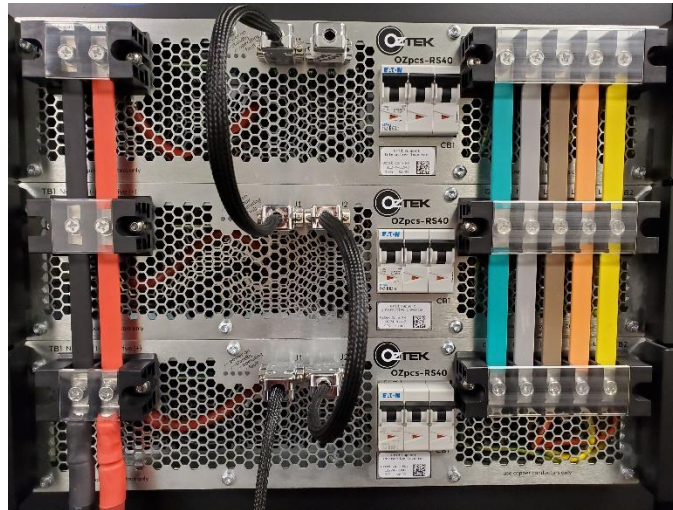

Figure 2 - DC and AC Power Cabling
- Figure 2 - DC and AC Power Cabling 3
The DC and AC connections are made using pass-through type terminal blocks. This interface style allows for simple daisy chain connections between units using cable or bus bars as shown below in Figure 2.
All isolated, low voltage I/O signals are provided on two standard High Density, D-Sub, 15-pin, female connectors. The pinout is identical for the two connectors provided in the table below. Providing two connectors simplifies cabling by allowing one point to point cable between the system controller and PCS #1, and short daisy chain cables to connect #1 to #2, and #2 to #3. This is illustrated in Figure 2. The host cable is routed from the bottom to the left connector on the lower PCS. Daisy chain cables are used to connect the bottom to the middle PCS, and the middle to the top. The connector on the top right PCS implements the terminating jumpers, as described in section 3.3.